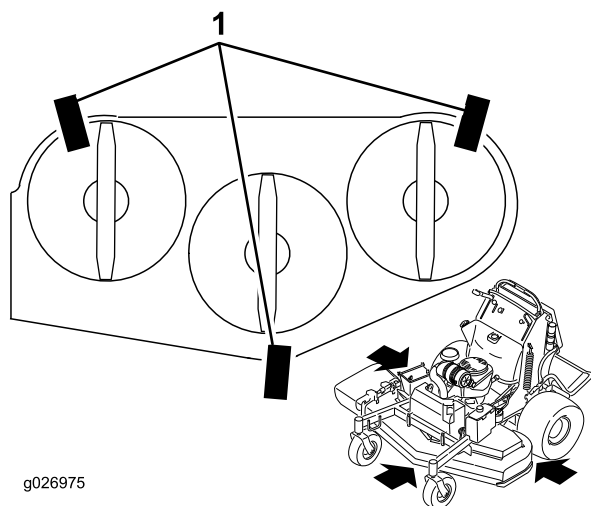

Figure 88
1. Place 3 pieces of 2 x 4 wood under the mower deck as shown in Figure 88.